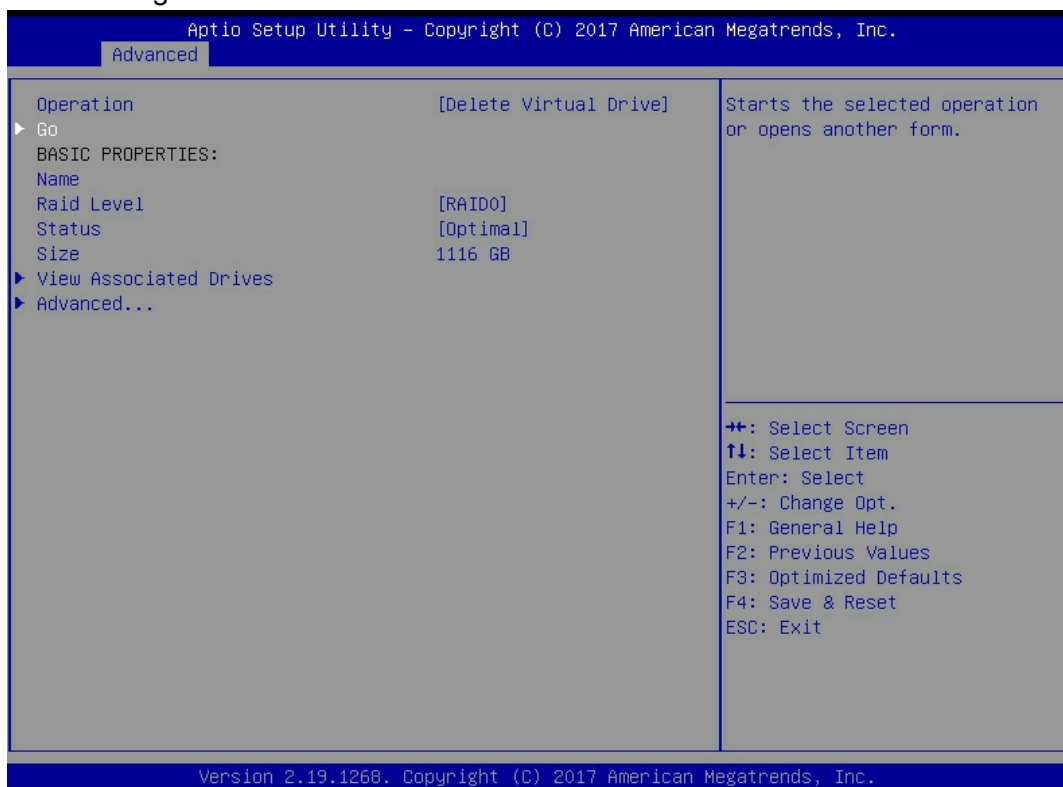

Figure 6-52
d) Enter the interface shown in figure 6-52, select go and press enter.
❖ Figure 6-52 select go